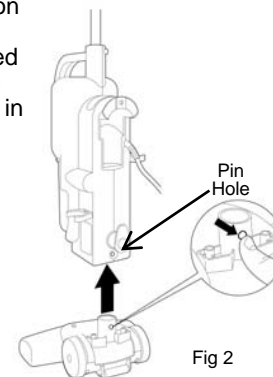

Fig 2
- When inserted correctly, the pin will show in the pin hole. (Fig. 2)